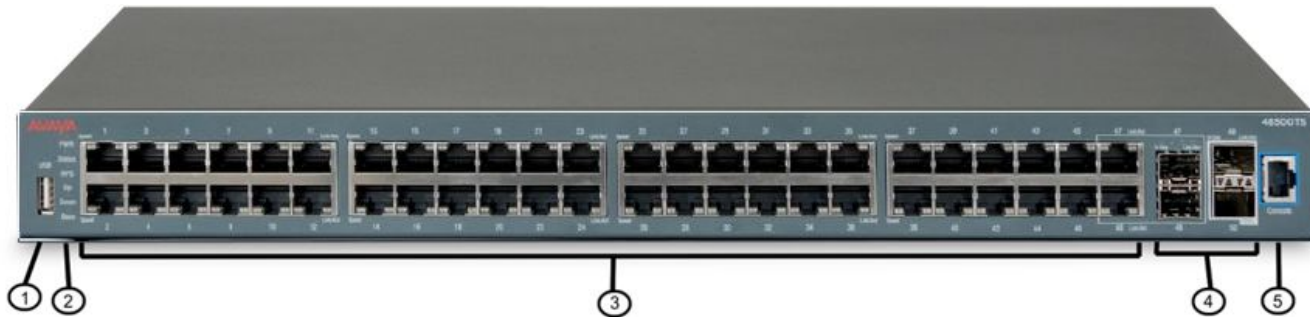

Figure 20: Avaya Ethernet Routing Switch 4850GTS
- Figure 20: Avaya Ethernet Routing Switch 4850GTS on page 52